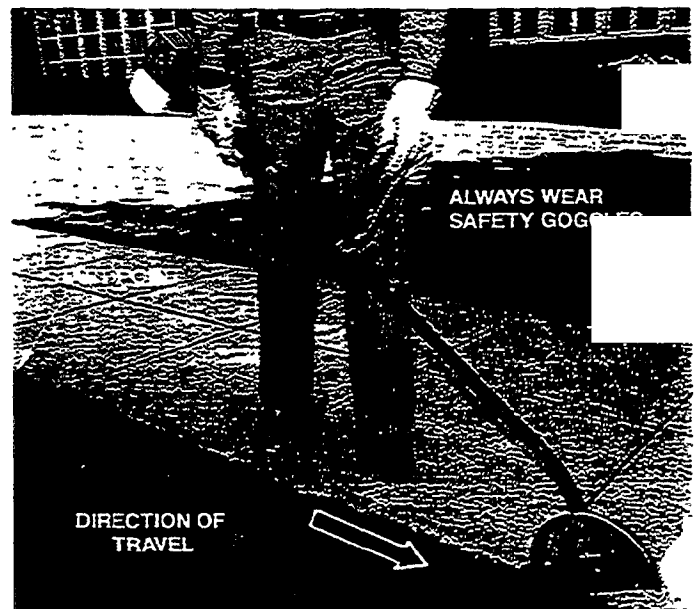

Figure 35
- Start the engine and run at half throttle before putting blade into the ground. Gently lower the blade into the ground at the point you wish to start edging. Be careful not to hit the concrete (Figure 35).
- The correct handling of your edger is shown in (Figure 35).